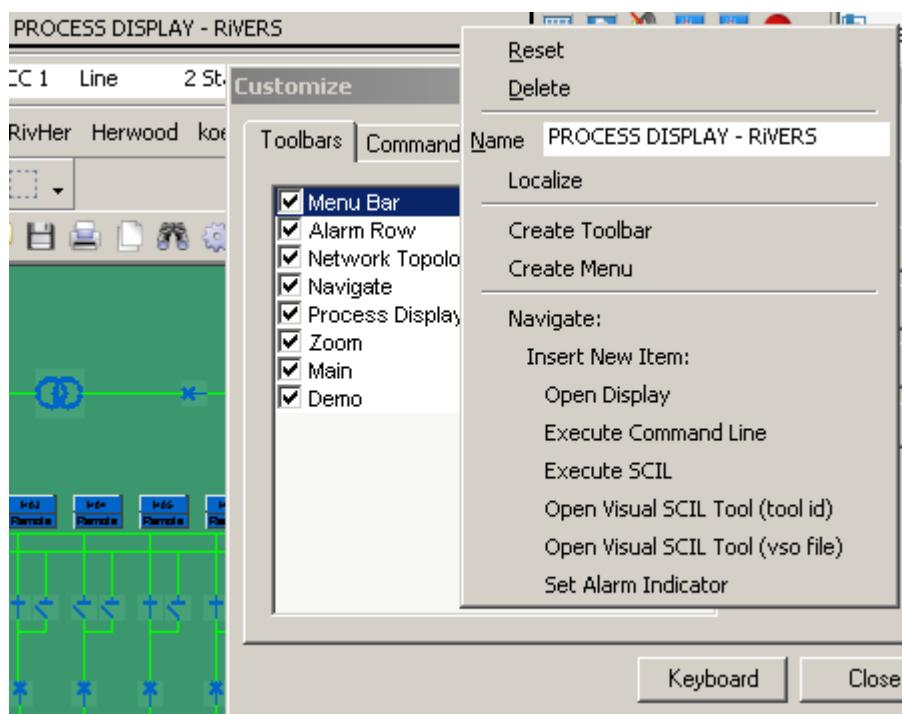

Figure 11: Renaming the Process Display
3. Select **Name** and enter a new name for the Process Display Figure 11.